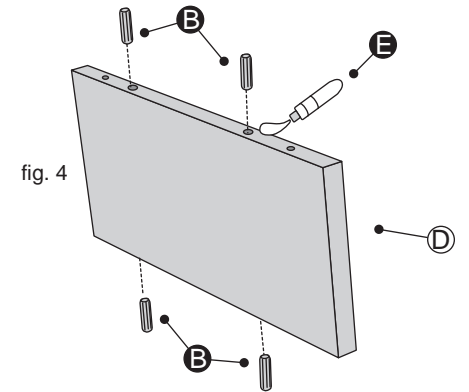

fig. 4
1. Place a small amount of Glue **E** into the dowel holes. Insert Dowels **B** into the Table Side Panels **D**. See fig. 4.